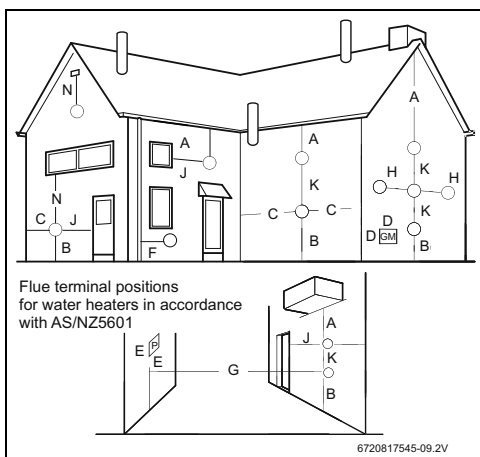

Fig. 6 Minimum flue clearances
- ▶ Allowances for service work while considering the minimum distances indicated in fig. 6.